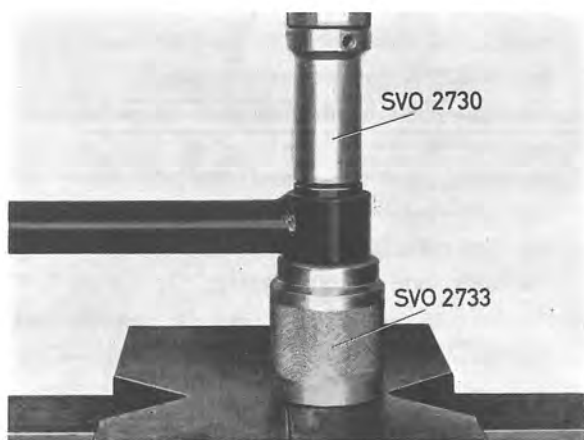
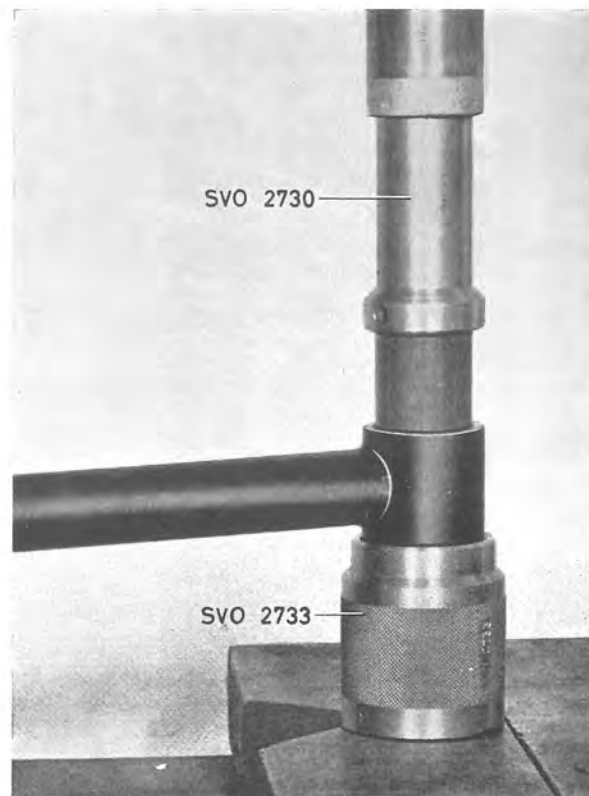

Fig. 7-11. Removing small bush, track bar
Fig. 7-12. Installing small bush, track bar
5. The large bushes are pressed out with SVO 2731, and SVO 2733 as a counterhold (Fig. 7-11). When pressing in the bushes, SVO 2731 is reversed (Fig. 7-12).
6. Fit the bar with the screw to the frame bracket (12).
7. Place the other end on the rear axle bracket (6) and fit both washer and nut. Screw on the frame bracket nut.